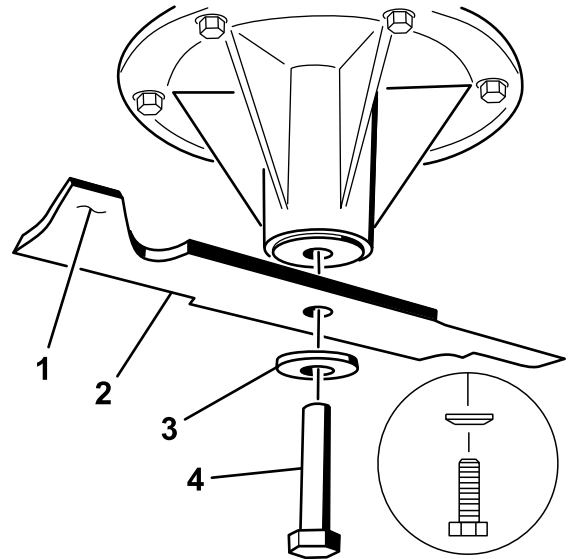

Figure 98
2. Remove the left and center blade bolt, curved washer, and blade from the spindle shaft (Figure 98).